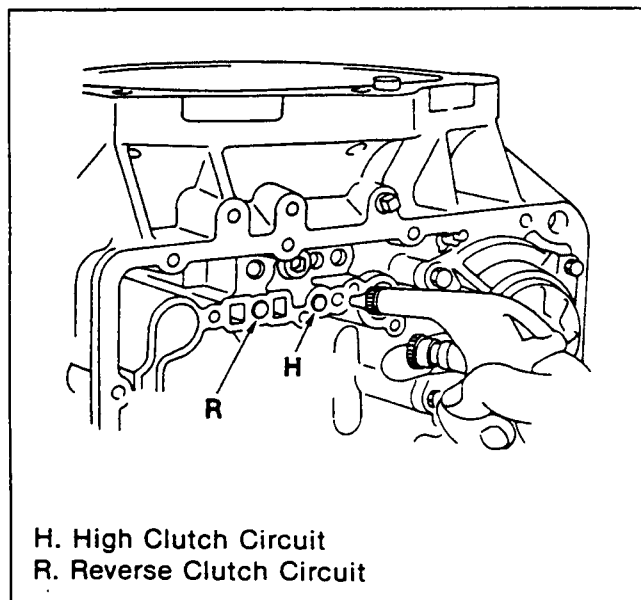

Figure 282. Drum Support Installation (4)
7. Blow air (294 – 392 kPa or 42 – 56 psi) into the oil holes and check that there are no air leaks at the two check points (only for high clutch circuit and reverse clutch circuit) (figure 282).